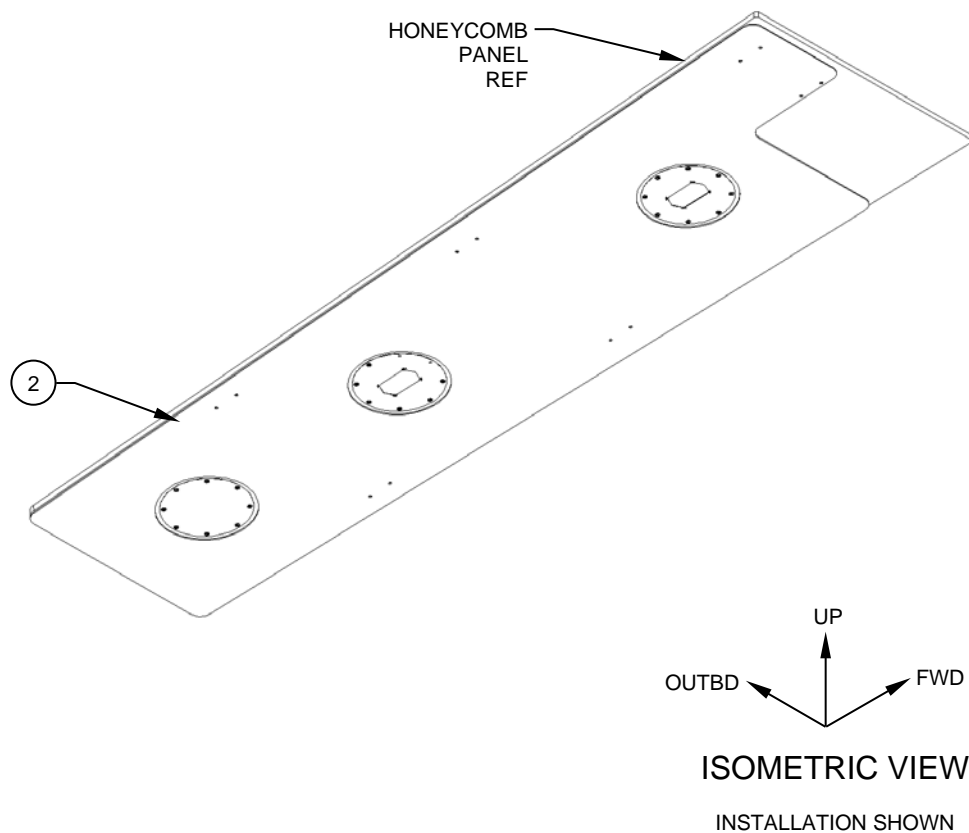

**Figure 3**
5. Using the felt pen marks as reference points, apply the Velcro®, Details (Items 15, 16 & 17) to the honeycomb panel in their respective locations. Reference Figure 3. Apply adequate pressure to ensure a secure bond.